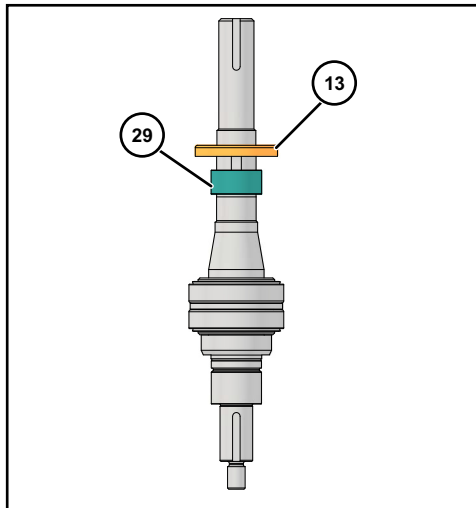

Figure 65 - Install Rear Seal
1. Install the gear spacers (Figure 65, item 29).
3. Install the oil seals with the spring facing out (Figure 65, item 13).